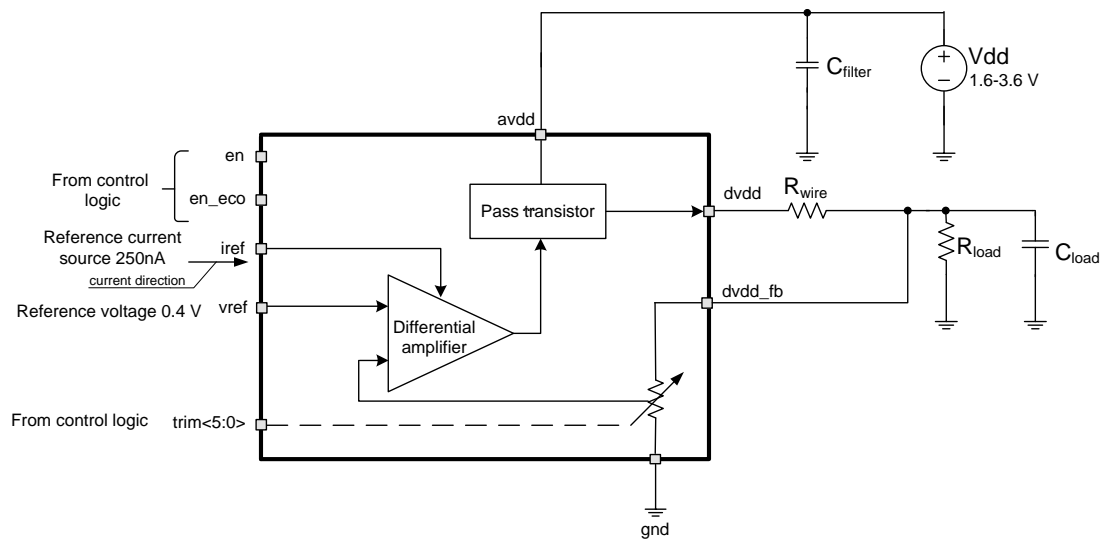

Figure 3: LDO voltage regulator structure and application diagram
- Section 5 “Structure”. Figure 3 updated